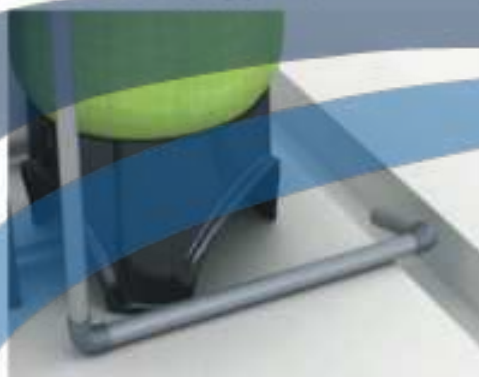

Figure 1-3
- Be sure not connect drain with sewer, and leave a certain space between them (As the figure 1-3 shows), avoid wastewater be absorbing to the water treatment equipment.